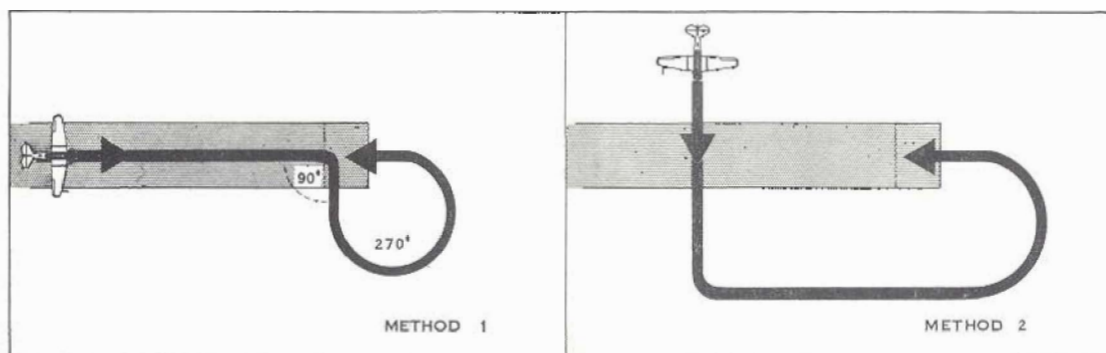

Figure 8: Runway Orientations
(1) The runway orientation procedure is designed to place the aircraft in line with the runway-in-use so that you may make a final approach and landing. There are three different procedures, the choice of the correct one being dependent on the position of the aircraft at the end of the letdown. Since experience helps, you must practise Runway Orientations until you are aware of the benefits of each. Your instructor will supplement the information given here with tips from his own fund of knowledge, but the basic procedures will remain unchanged. Before starting the chosen procedure, you must ensure that the throttle is set to the pre-determined power setting, and you must leave it there until the aircraft is in a position from which you can make a landing. The Cross-Wind Check is completed during the final descent to the runway, and flaps are lowered as required.
- (b) turn 90 degrees left or right at the button, (As shown in Figure 8, Method 1); and